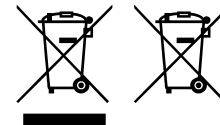

Fig. 1 Fig. 2
4. the symbol (crossed-out wheeled bin – Fig.1) even if, shown on the product or on the packaging, indicates that the equipment must be disposed of separately at end-of-life;